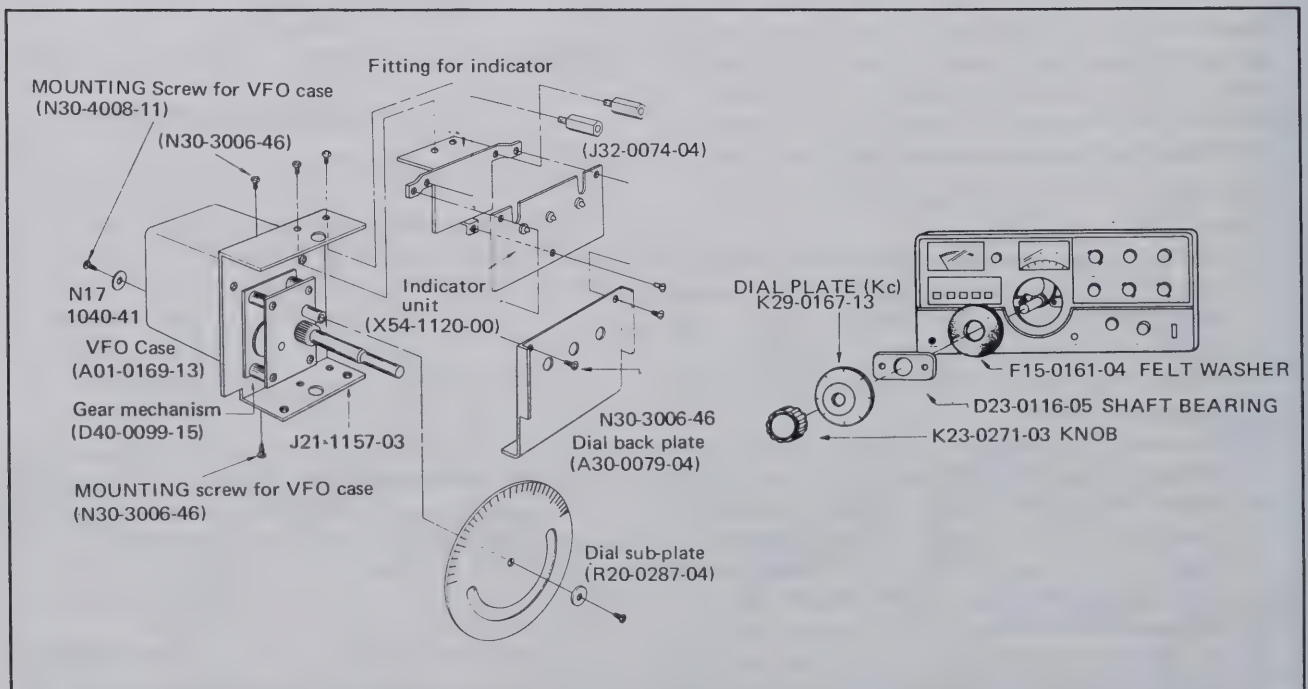

Figure 11. VFO Assembly
5. Gently lift and pull the VFO assembly from the chassis being very careful not to damage the sub-dial. Figure 11 shows the entire assembly.